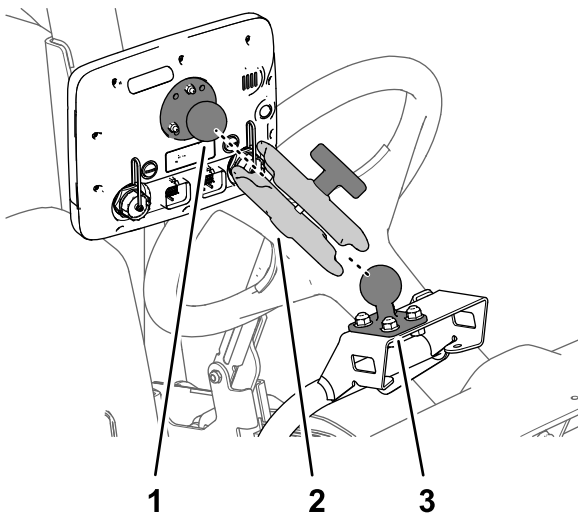

Figure 165
3. Assemble the ball fitting of the monitor and the ball mount on the machine to the monitor arm (Figure 165).
4. Adjust the monitor so that it is viewable from the machine operator's position and tighten the knob of the monitor arm by hand (Figure 165).